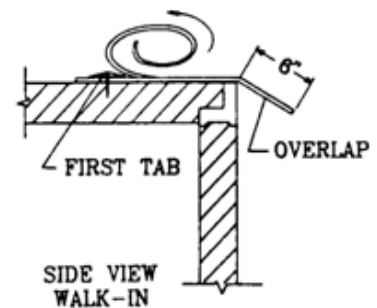
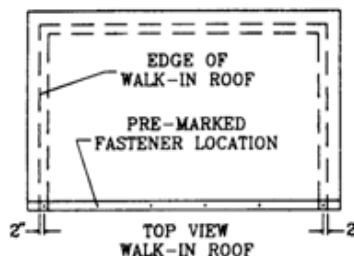
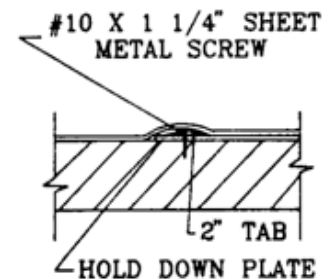

FIGURE 19 - VINYL WEATHERCAP ANCHORING
FIGURE 20 - FASTENER LOCATIONS
FIGURE 21 - ADDITIONAL VINYLWEATHERCAP ANCHORING
4. Once the vinyl weathercap is correctly positioned on top of the walk-in, anchoring may begin. Anchor the short side of the cap first and then roll the vinyl weathercap. Roll the vinyl weathercap back to the first anchoring tab nearest to the edge of the walk-in (Refer to Figure 19). Using #10 x 1-1/2" long sheet metal screws and the hold down plates, anchor the first tab down to the roof. The hold down plate and fastener locations are pre-marked on the tab at the factory (Refer to Figure 20). Start in the center of the tab and work toward the ends, making certain the tab is square with the roof and 6" of roof cap is overhanging the edges of the roof. The tab should be flat. **Do not allow excessive wrinkles between hold down plates as the cap will not lay flat. The tabs should run the shortest length of the walk-in.**
5. Once the first tab is anchored to the walk-in roof, roll the vinyl weathercap over to the next tab (Refer to Figure 21) and repeat step 4 (Refer to Figure 19). **Do not allow the vinyl roof to wrinkle or have excessive material between tabs.**